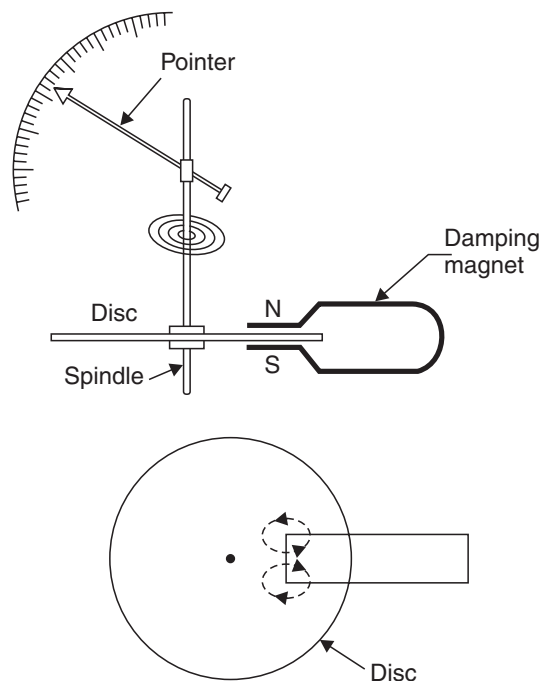

Fig. 5. Eddy current damping.
- One form of eddy-current damping is shown in Fig. 5. Here a copper or aluminium disc, carried by a spindle, can move between the poles of a permanent magnet. If the disc moves clockwise, the e.m.f.'s induced in the disc circulate eddy currents as shown dotted. It follows from Lenz's law that these currents exert a force *opposing* the motion producing them, namely the clockwise movement of the disc.